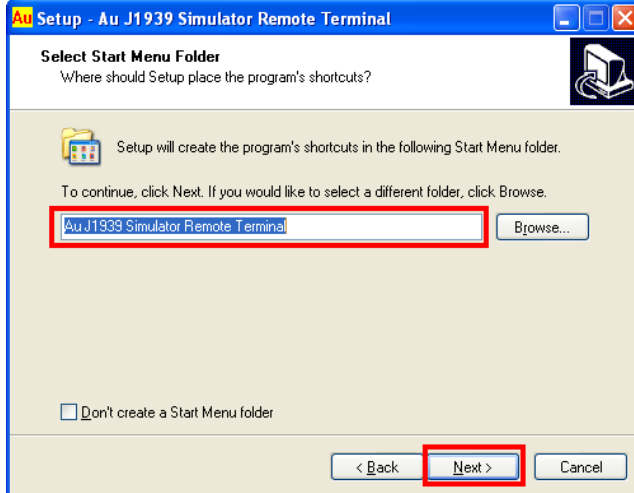

Figure A-6
6. "Select Start Menu Folder" window pop up, use the default folder and click "Next" to continue (Figure A-6).